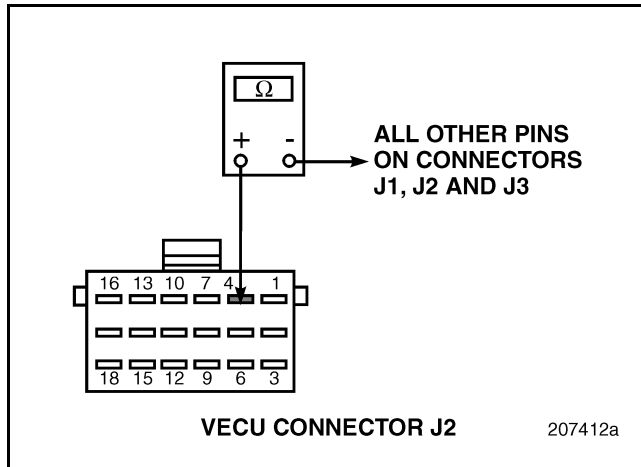

Figure 262
4. Check for continuity between Vehicle Electronic Control Unit (VECU) connector J2 pin 4 and all other pins in connectors J1, J2, and J3 (see Figure 262).